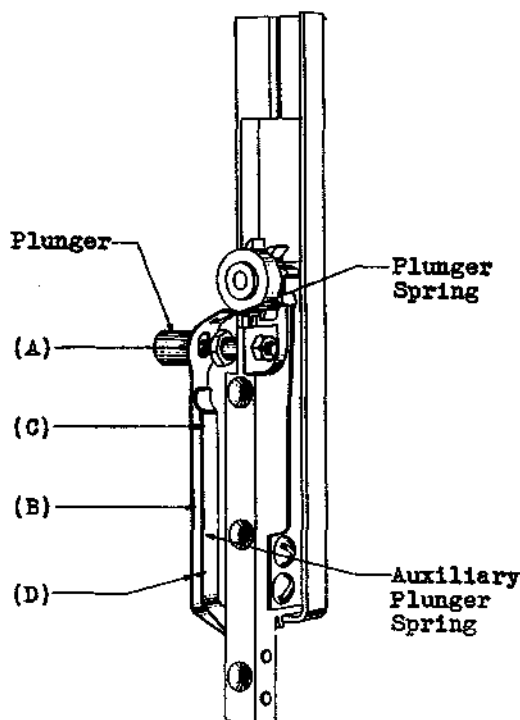

Fig. 7
**\*2.14 Tension of Plunger Spring - Fig. 7 (A)**
**\*2.15 Bow - Fig. 7 (B) -** The long portion of the plunger spring shall be free of sharp bends or kinks due to adjustment. A gradual bow in the spring is permissible. Gauge by eye.
**\*2.16 Tension of Auxiliary Plunger Spring Fig. 7 (C) -** The auxiliary plunger spring shall rest against the plunger spring with a tension of
**\*2.17 Position of Auxiliary Plunger Spring Fig. 7 (D) -** The auxiliary plunger spring shall be approximately parallel to the plunger spring.